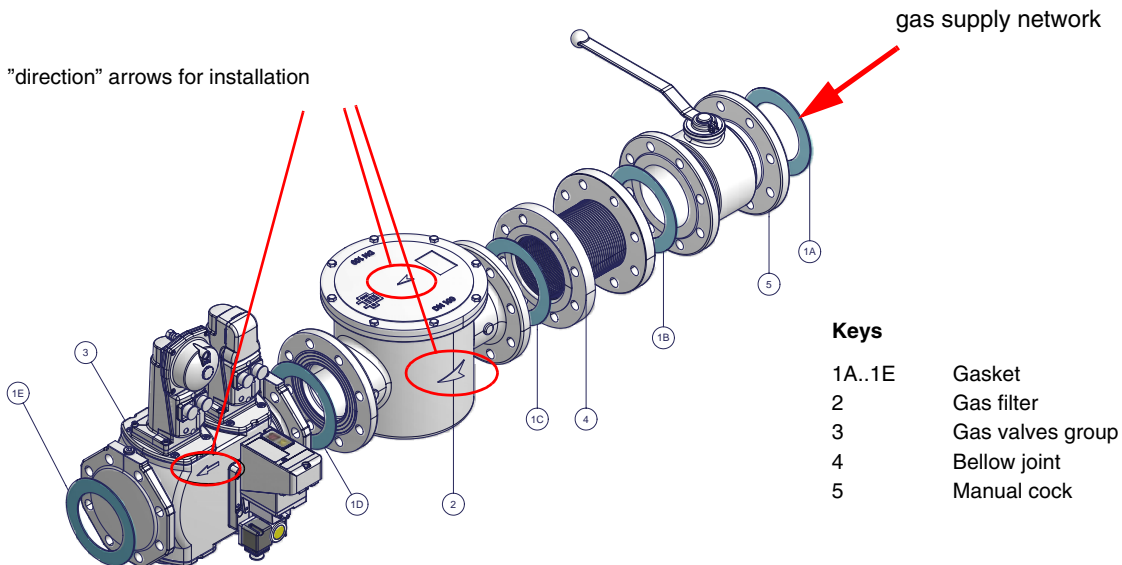

Fig. 6 - Example of gas train
- 1) in case of flanged joints: place a gasket (no. 1A..1E - Fig. 6) between the elements
<p>ATTENTION: once the gas train is mounted according to the diagram on Fig. 6, the gas proving test must be performed, according to the procedure set by the laws in force.</p>
**ATTENTION:** once the gas train is mounted according to the diagram on Fig. 6, the gas proving test must be performed, according to the procedure set by the laws in force.